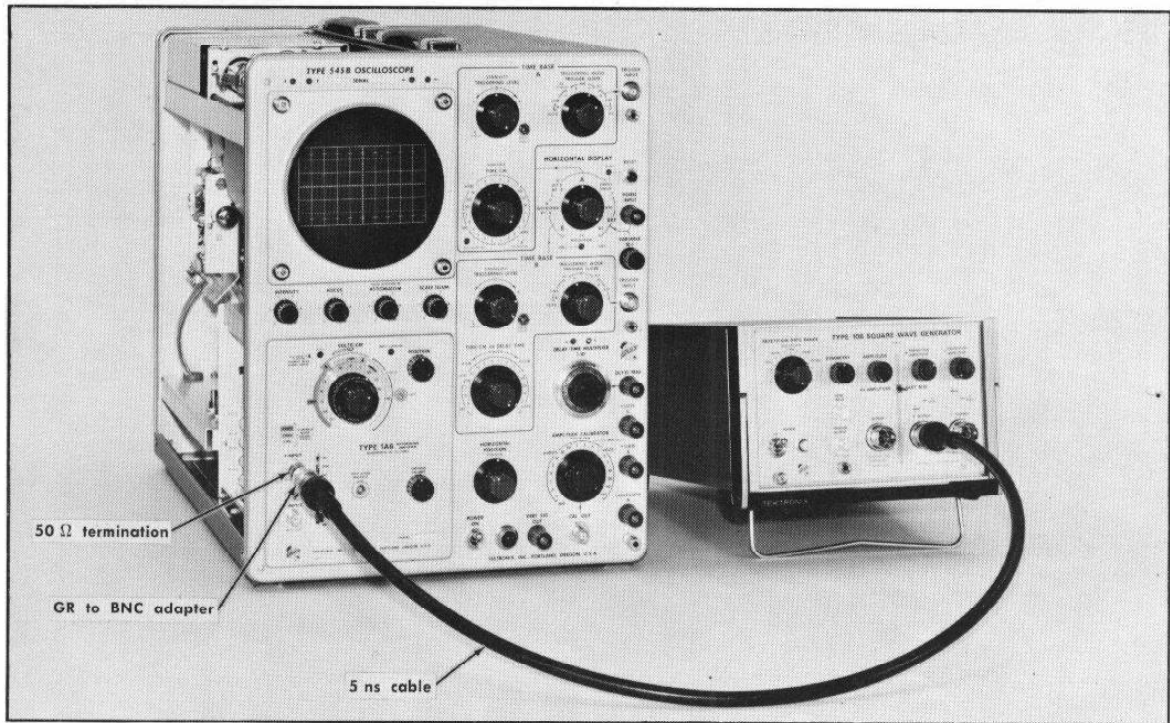

Fig. 6-17. Equipment setup for step 13.
- a. Equipment setup is shown in Fig. 6-17.